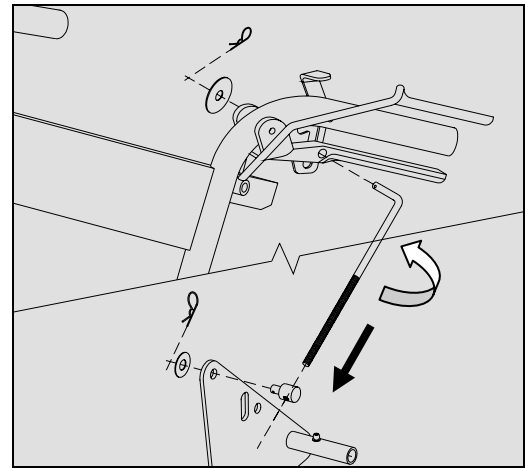

FIGURE 6.2
1. Move the machine to a smooth, level surface and turn the engine OFF. Release the traction locks. See Figure 6.2.